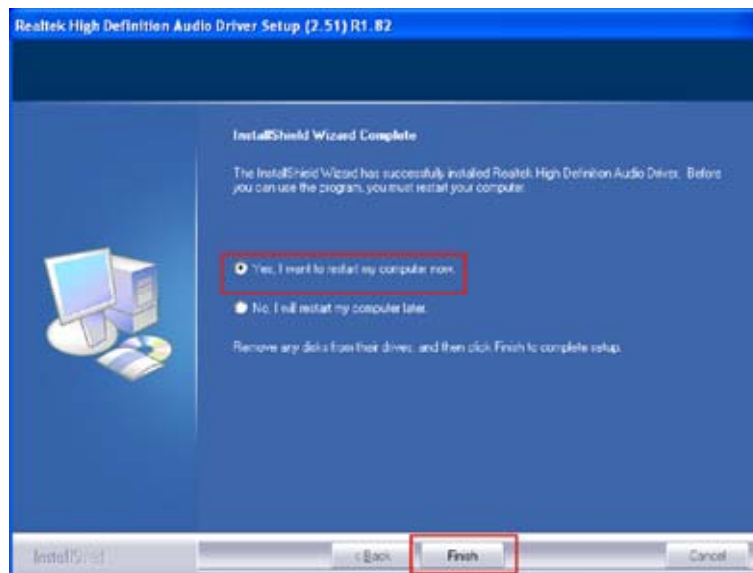

Figure 7-28: HD Audio Driver Installation Complete
Step 62: When the driver is installed, the driver installation finish screen in **Figure 7-28** appears.